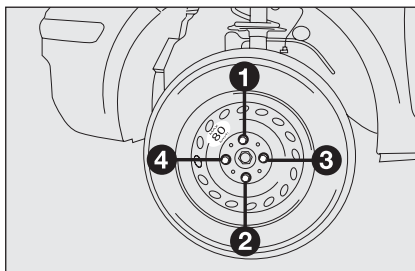

fig. 6
- ☐ use the wrench provided to fasten the bolts completely in a criss-cross fashion as shown in **fig. 6**;